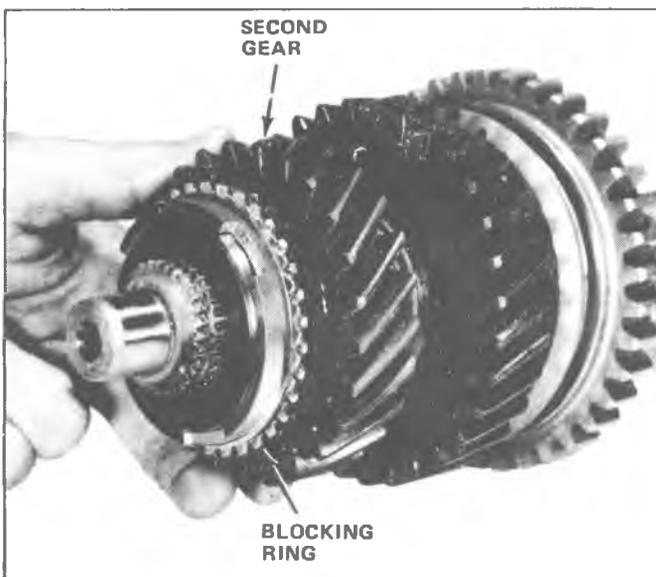

Fig. 7B-19B--Installing Second Gear
8. Install retaining snap ring on output shaft and measure end play between snap ring and Second-Third synchronizer hub with feeler gauge (Fig. 7B-20B). End play should be 0.004 to 0.0014 inch. If end play exceeds 0.014 inch, replace thrust washer and all snap rings on output shaft assembly.